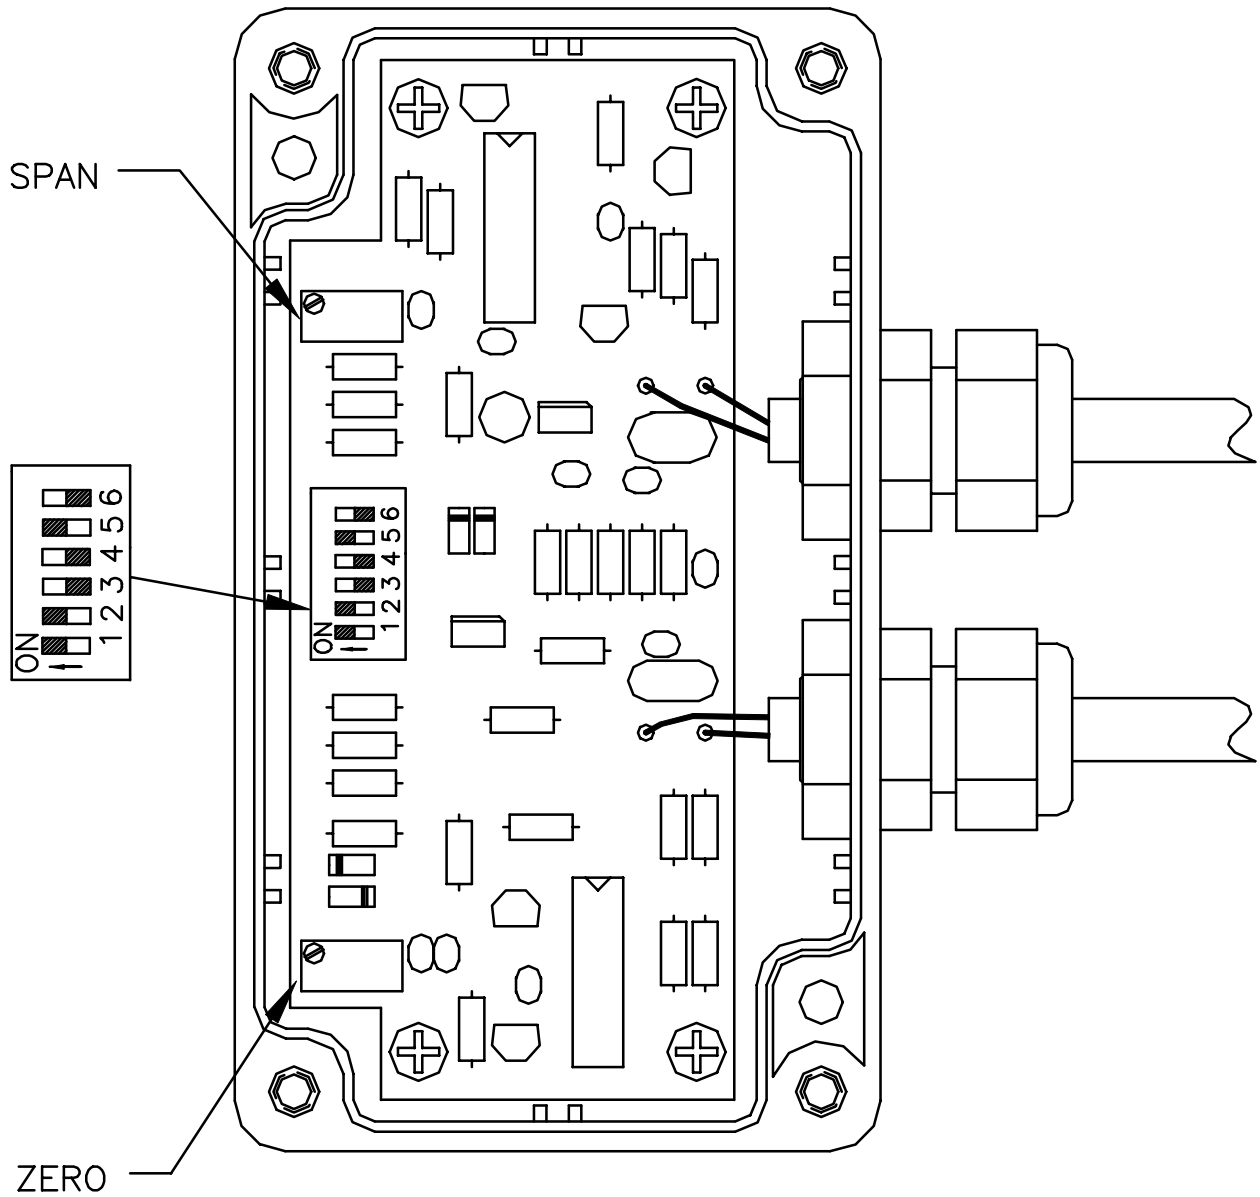

Figure 4.5 T-800L Component Layout
Figure 4.5 shows the internal layout of the T-800L transmitter and the location of the critical component including the 6-position DIP Switch and the ZERO and SPAN potentiometers.
- d. The DIP Switch settings may be determined by either using the Resistance Table in Appendix A or the Distance Table in Appendix B. Location of the DIP Switch is shown in Figure 4.5. The Resistance Table is more accurate and is correct independent of any tank geometry. If the Distance Table is to be used, proceed to step h).